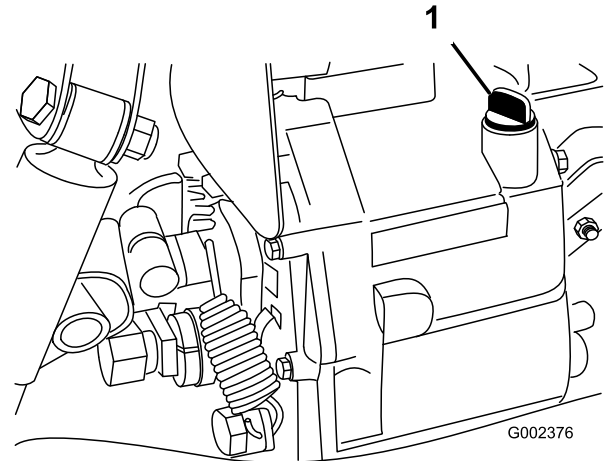

Figure 17
2. Clean area around dipstick (Figure 17).